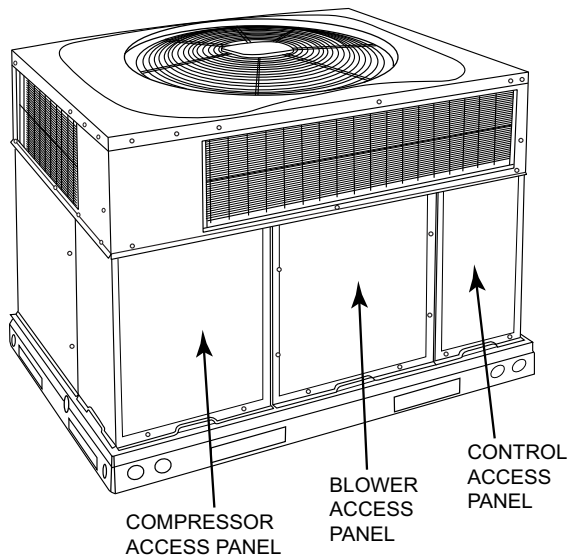

Fig. 28 – Unit Access Panels
- a. Remove blower access panel (see Fig. 28).
- g. Reinstall blower access panel (see Fig. 28).
Remove access panels (see Fig. 28) to locate all the electrical controls and wiring. Before working with or handling any electrical components, make sure that all capacitors are properly discharged to avoid possibility of sparking. Replace components only with parts specified by the manufacturer. Other parts may result in the ignition of refrigerant in the atmosphere from a leak. Check all electrical connections for tightness. Tighten all screw connections. If any discolored or burned connections are noticed, disassemble the connection, clean all the parts, restrip the wire end and reassemble the connection properly and securely.